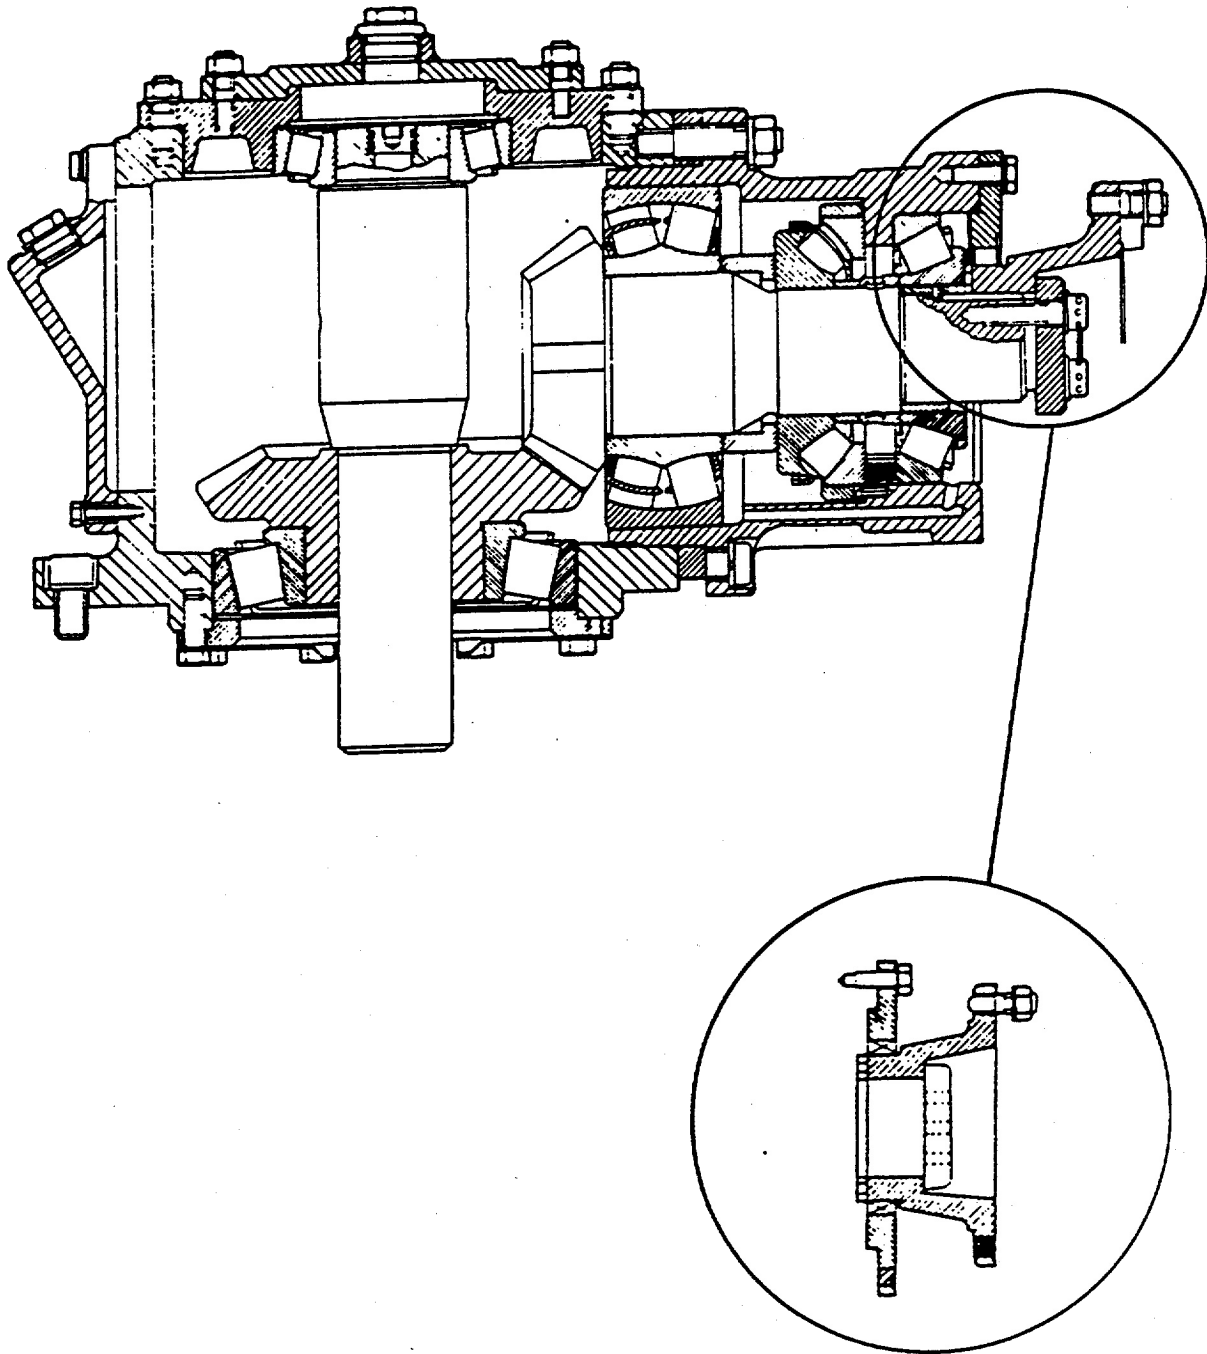

FIGURE 1-8. Upper Gear Assembly.
f. Upper Gear Assembly. (FIGURE 1-8). The waterjet mechanically couples the bowthruster engine to the jet pump impeller. The upper gear assembly is an oil filled gear box mounted on the well cover containing a matched pair of speed reducing bevel gears and associated bearings. The gears convert horizontal shaft input torque to vertical shaft output torque. The output shaft drives the impeller as described below.